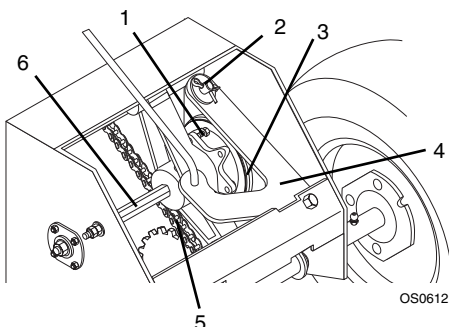

Figure 22
- Loosen nuts on idler hex shaft (Figure 22). Adjust the idler hex shaft in slot as necessary. Torque the nut to 70-146 lbf-in. (7.9 - 16.5 N•m).
- Place speed selector in first (1) position and depress traction clutch lever to hold friction disc and hub in position.
- Remove cap screws from hub (Figure 22).
- Release traction clutch lever, shift to third (3) position, and remove friction disc.